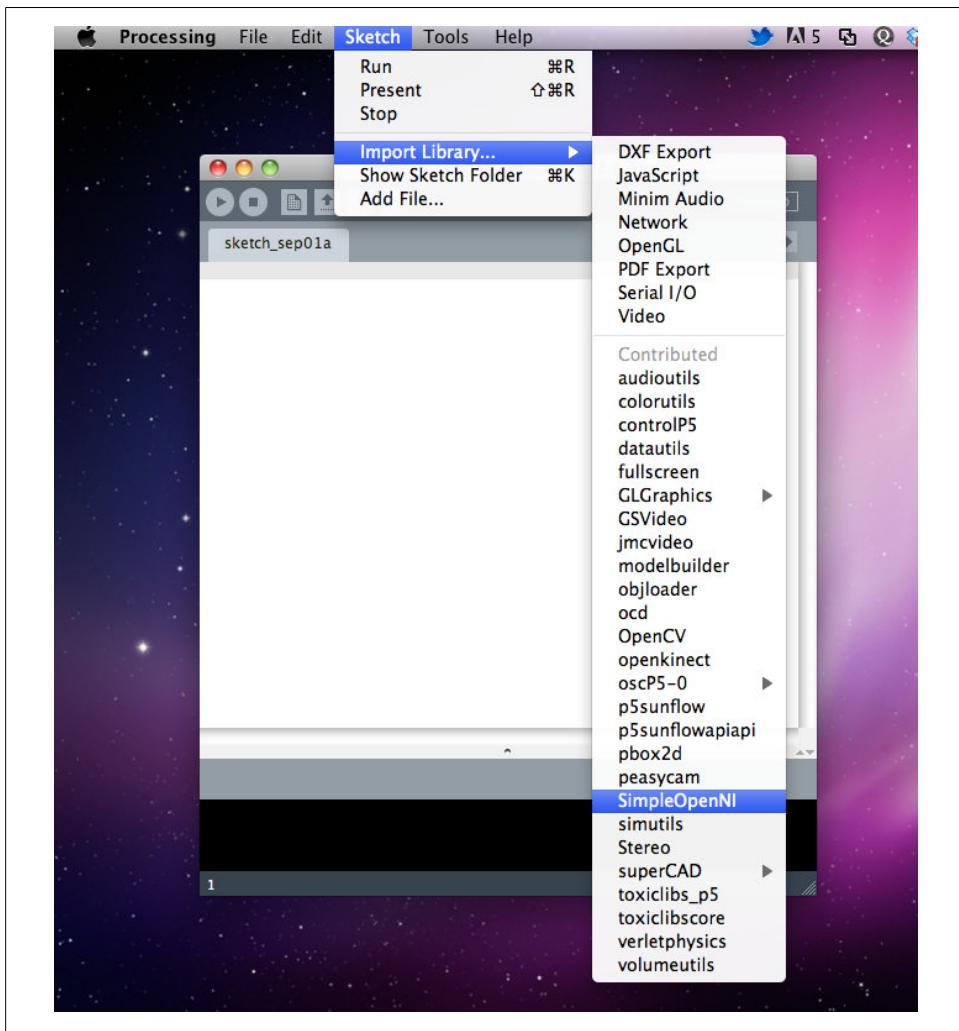

Figure 2-3. After a successful install, SimpleOpenNI shows up in Processing's list of libraries.
- SimpleOpenNI should now show up in Processing's list of installed libraries (Figure 2-3). You can confirm this by looking for it under the Sketch → Import Library menu.